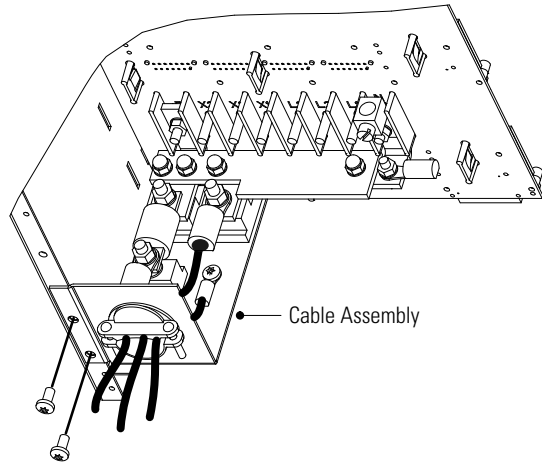

Figure 45. Battery Cable Assembly Installation
12. Align the screw holes of the cable assembly's entry plate with holes on the cabinet side cover as shown in Figure 45. Secure the entry plate with screws supplied with the cable assembly.
13. If the battery cable will be installed in customer-supplied flexible or other conduit (as required by local wiring codes), loosen the two screws holding the strain-relief clamp shown in Figure 45. Remove the clamp by loosening the star nut on the inside of the entry plate, leaving the nut in place. Replace the clamp with a panel-to-conduit feedthrough and secure it with the star nut.